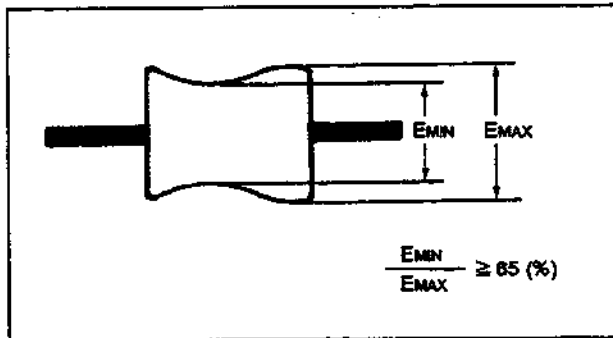

Fig. 44
- 2) Then, confirm that the minimum amplitude value (EMIN) is 65 % of the maximum value (EMAX) or larger (Fig. 44).